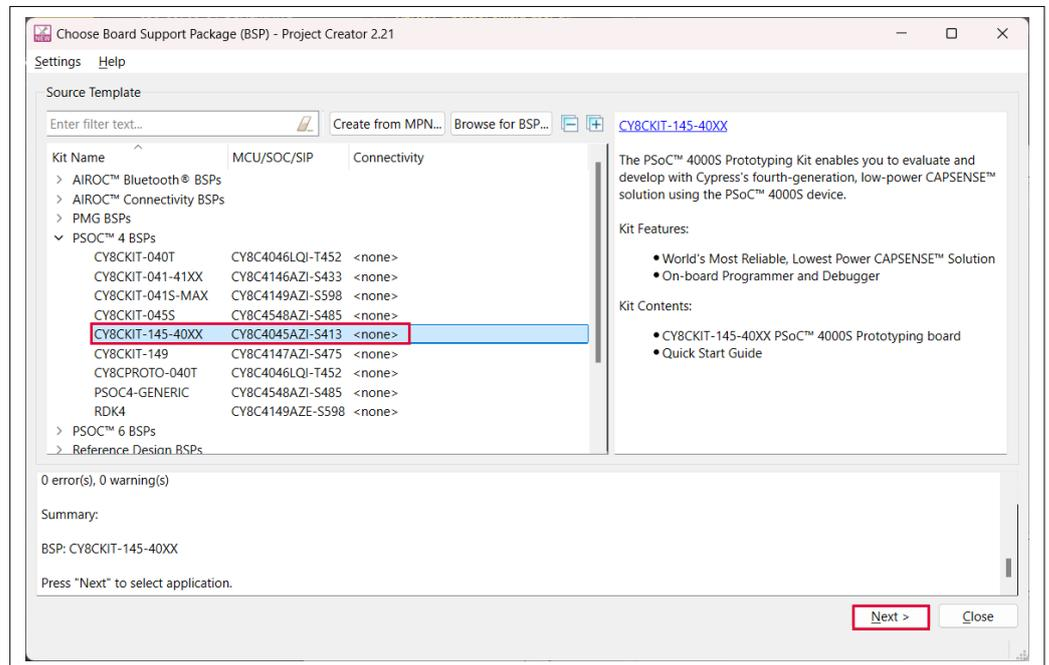

Figure 11 Creating a new application: Choose Board Support Package
b. In the **Choose Board Support Package (BSP) - Project Creator 2.21** window, expand PSoC™ 4 BSPs, select CY8CKIT-145-40XX, and click **Next**, as shown in Figure 11